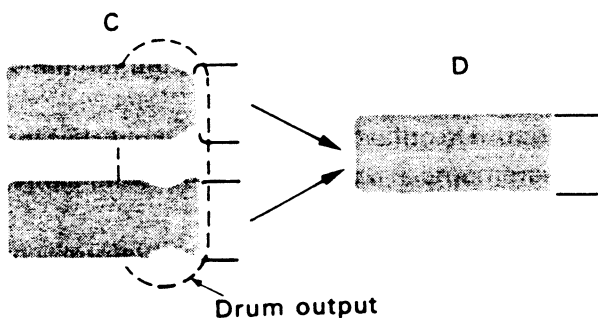

Fig.7-5 Drum output adjustment
- In the same manner as for the drum input, turn the take-up guide roller to adjust the falling portion (drum output portion) of the FM waveform. Incorrect examples are shown by C in Fig.7-5, while D indicates the correct adjustment.